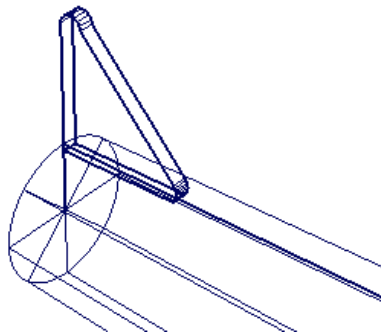

Figure 3-102 Skin surface
- Select the copied linearc profile; the skin surface is created, as shown in Figure 3-102.